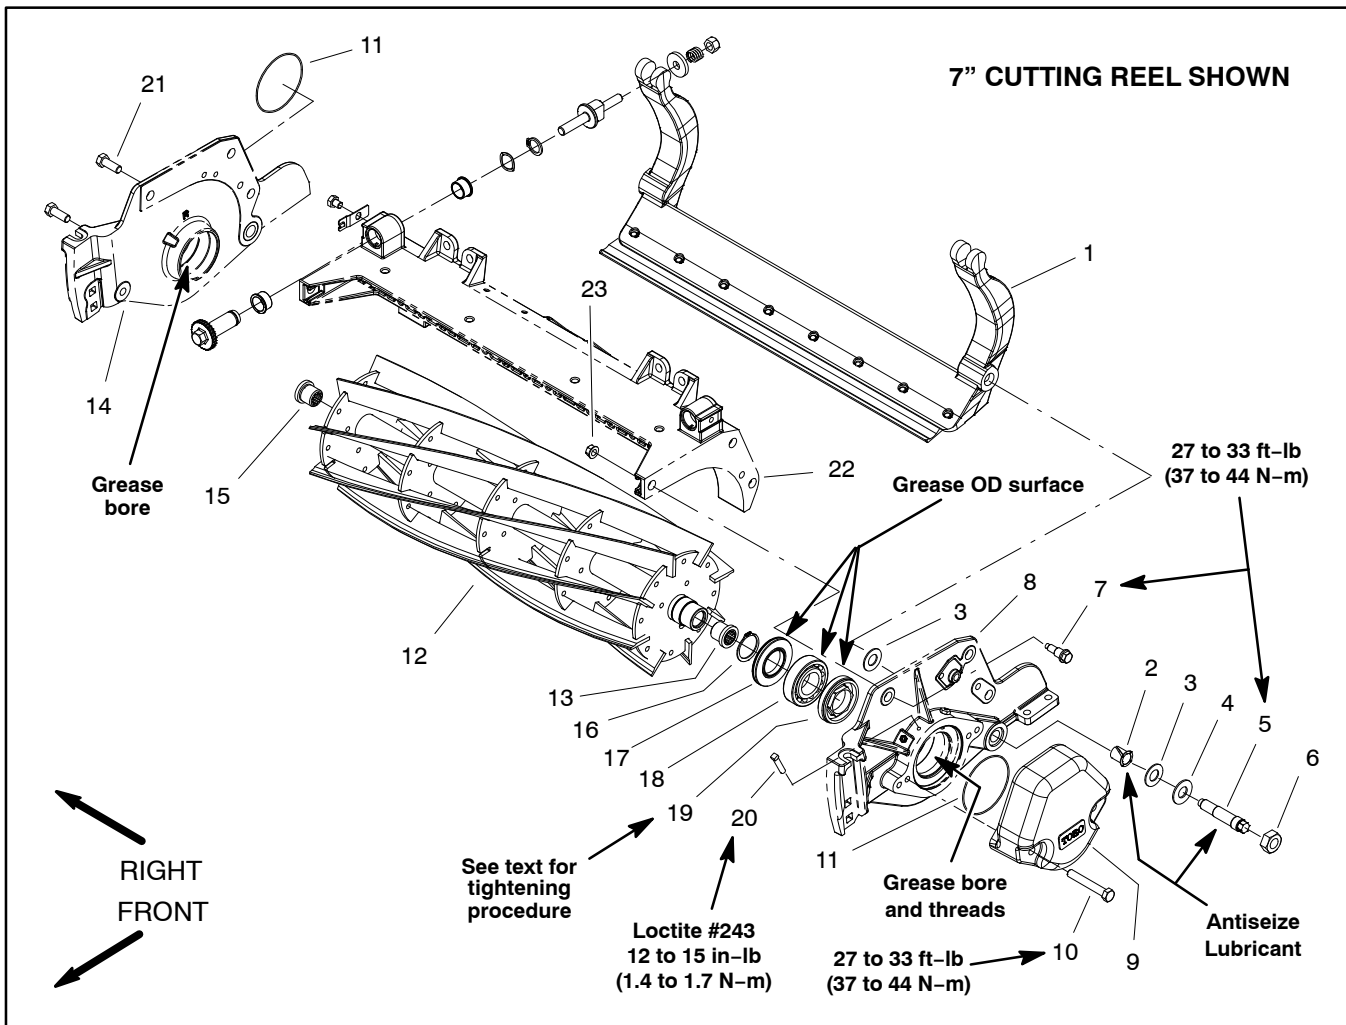

Figure 33
Reel Assembly Removal (Fig. 33)
3. If the cutting unit is equipped with a counterweight or accessory on LH side plate (as shown in Figure 33), remove the counter weight or accessory. Remove and discard the O-ring from counter weight.
Reel Assembly Installation (Fig. 33)